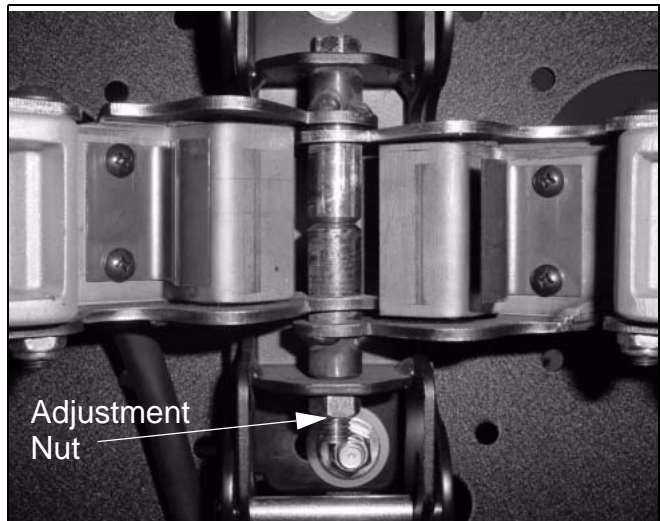

Figure 10: Lateral Tilt
1. Using a 9/16" wrench (not provided), slightly tighten or loosen lateral tilt tension adjustment nut (See figure 10).